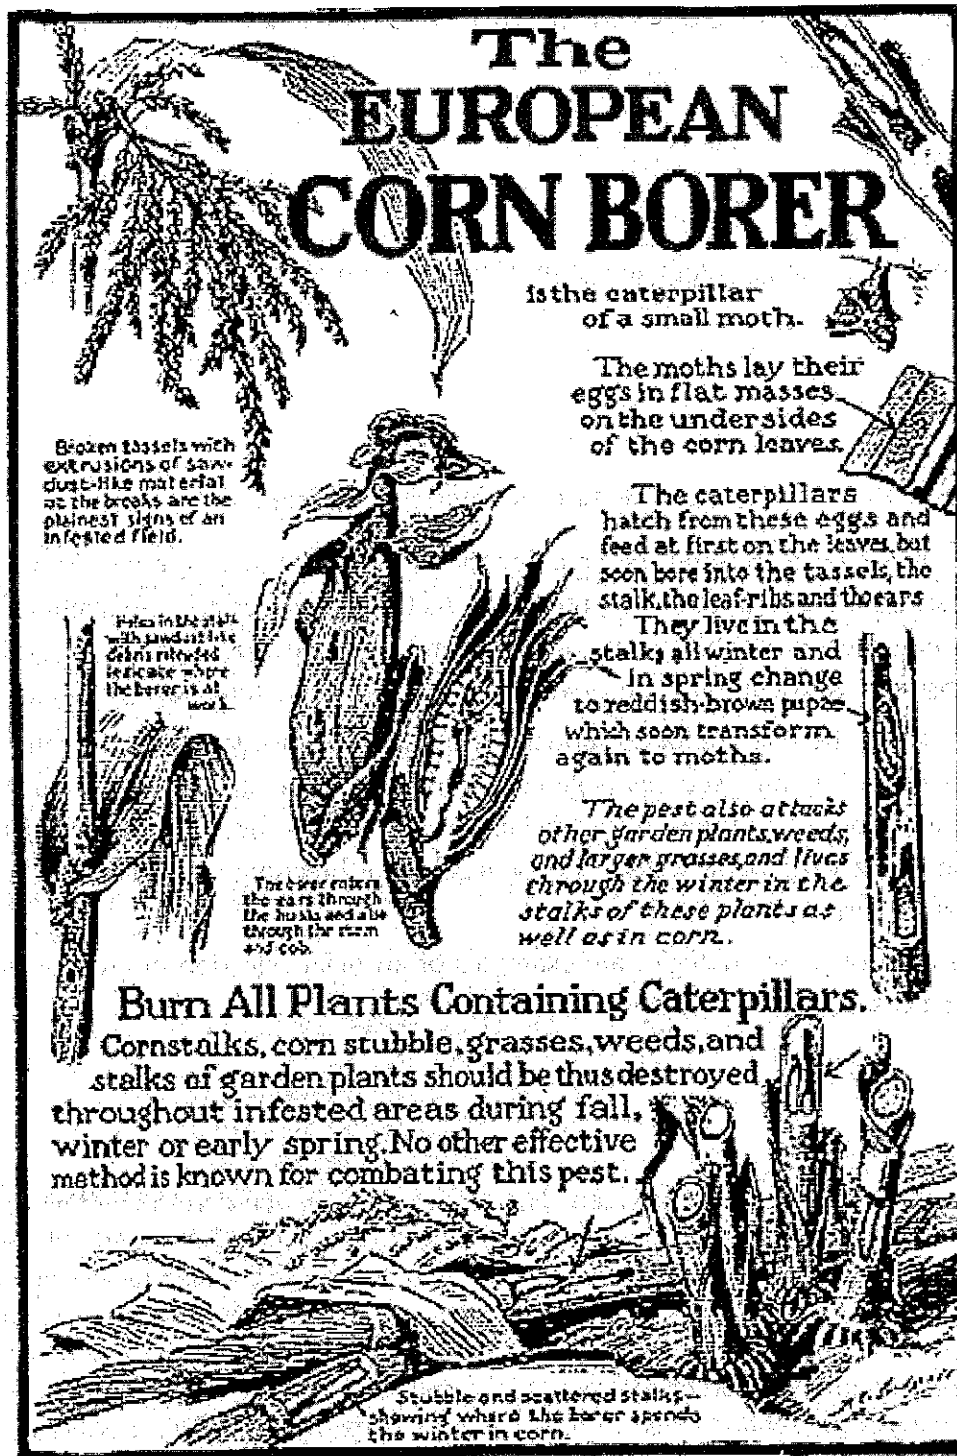

Figure 6.5 In 1919, the only method of controlling corn borers was crop destruction.
**D. Alternatives for Controlling European Corn Borers.** The European corn borer (ECB) was introduced into the United States in the early 1900s, most likely arriving with imported European plant products. Without predators to keep the population in check, ECBs spread rapidly. In most of the United States this moth produces multiple generations in a single year. Various environmental factors influence the population sizes from year to year. Isolating infested fields and burning the plant material was the only method of control until the mid-1920s (Figure 6.5) when the bacterium *Bacillus thuringiensis* was discovered to have pesticidal properties. By 1930, growers were spraying their crops with a mixture containing live *B. thuringiensis*, which was effective against ECB for as long as the pesticide-producing bacteria survived—several days at most. Although chemical pesticides became widely available after World War II, the majority of growers continued to use the *B. thuringiensis* mixture.